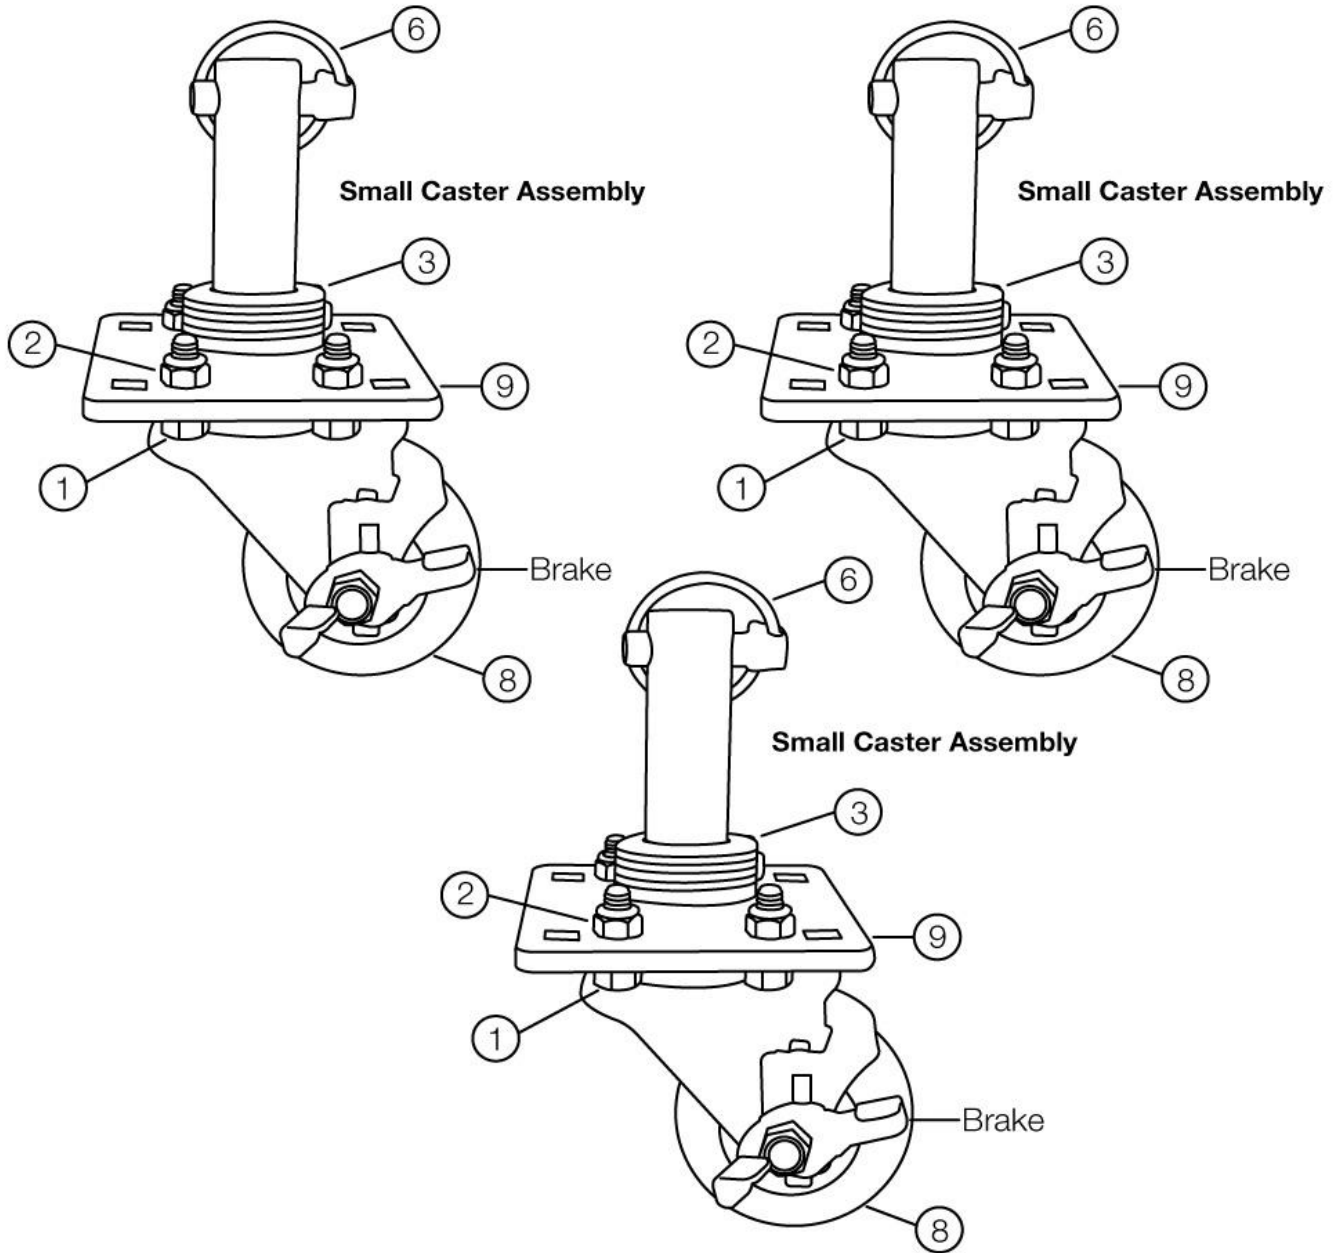

Figure 3. Caster Kit, UTV V-Blade Casters Shown Assembled – Note: extra hardware included
1. With the V-Blade plow on the UTV and after casters are all assembled as shown in Fig.3, begin by raising the V-plow fully. Add **two safety jack stands** under plow's cutting edge for safety.